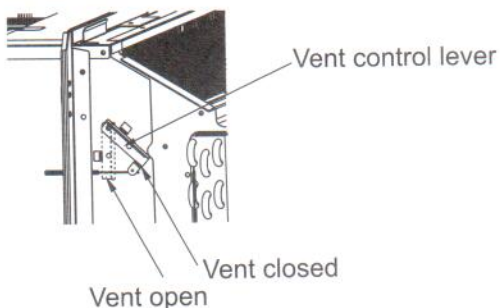

Fig.9
- Rotate the vent control lever to either open or close the vent door. (See Fig.9)